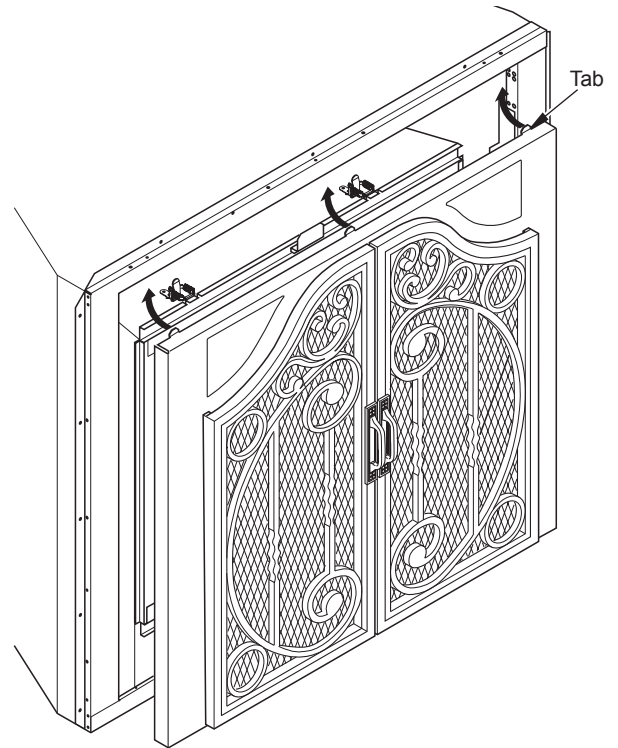

Figure 6 - Installing Door (Direct Vent Models)
- Two (2) people may be needed for lifting in this step.** To install decorative door assembly, lift and tilt bottom slightly outward and insert 3 tabs into rectangular slots located under top face flange as shown in Figure 6.